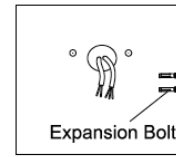

Fig. 22
2. Knock the expansion bolts into the wall (Fig. 22).